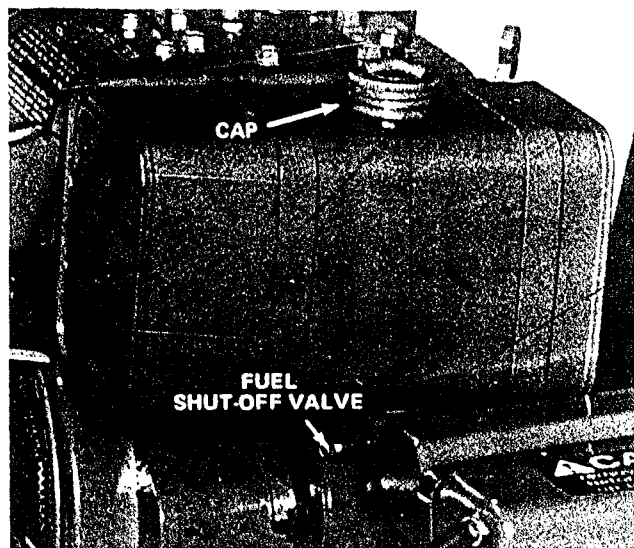

Figure 21
Fuel Shut-Off Valve (Fig. 21) — Close valve to stop fuel flow from fuel tank and open valve to allow fuel to flow to the carburetor.
3. Open fuel shut-off valve (Fig. 21).